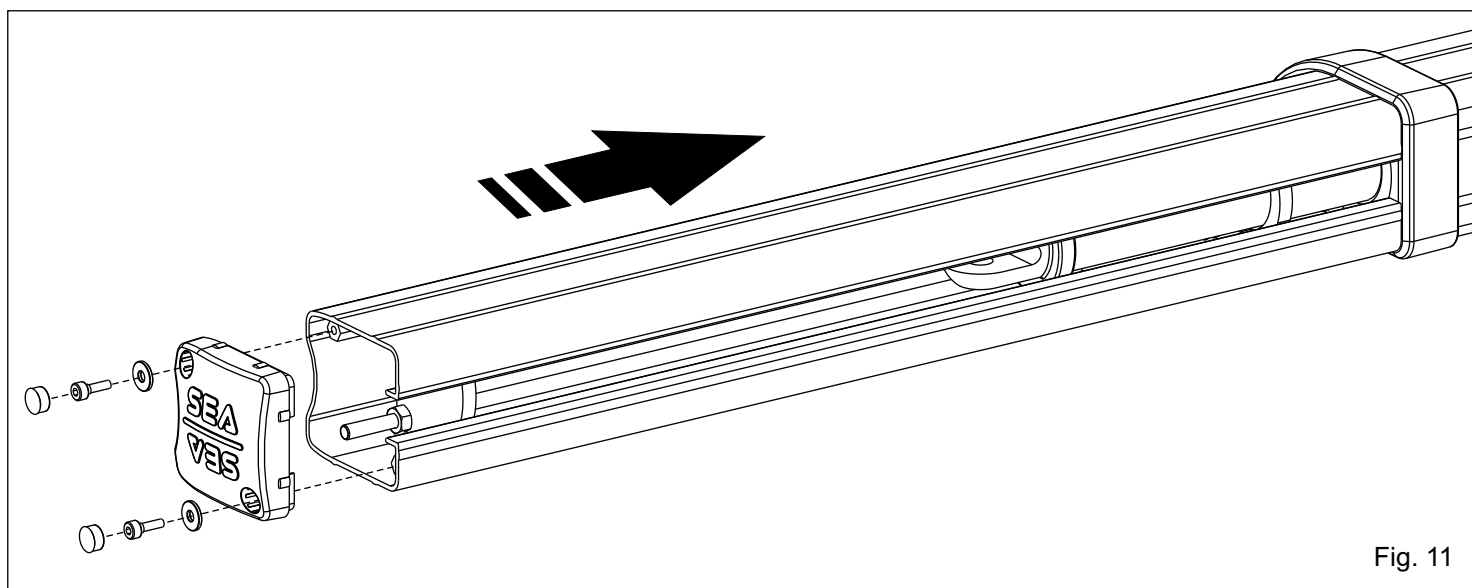

Fig. 11
9. When you finish the adjustment, install the stem cover (Fig. 11).